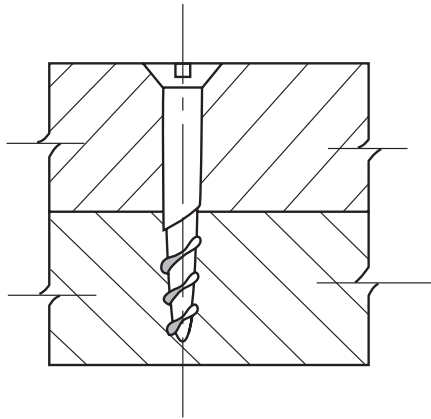

Fig. 4
- 3 (a) Fig. 4 shows a fixing used to join together two pieces of wood.